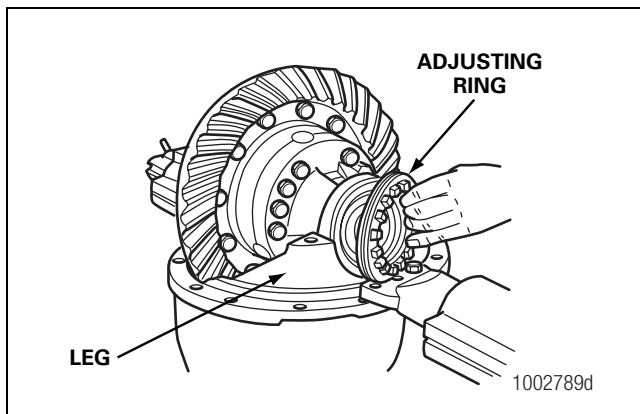

Figure 5.48
- Install both of the bearing adjusting rings into position between the carrier legs. Turn each adjusting ring hand-tight against the bearing cup. Figure 5.48.